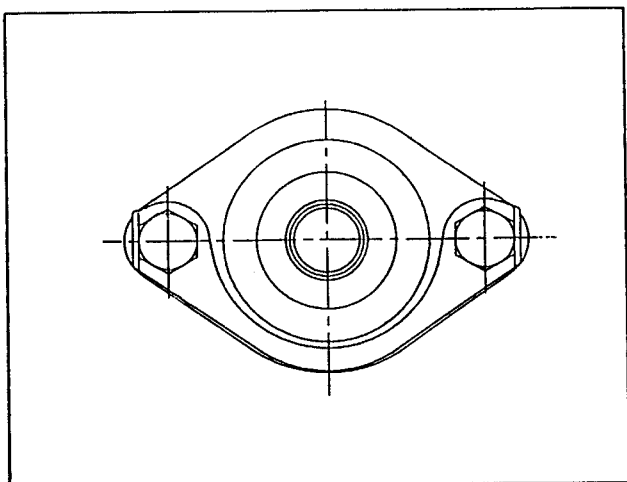

Fig. 6 Lower ball joint - tab washer
11. Fit the new ball joint and new tab washer (the open side of the tab washer is to the hub). Torque the ball joint securing bolts to 65 Nm, 47 lbf. ft. Then tighten the bolts further, as required, so that the bolt heads are tangential to the ball joint boot and the tab washer can be bent into position (Fig 6) to secure the bolt heads.